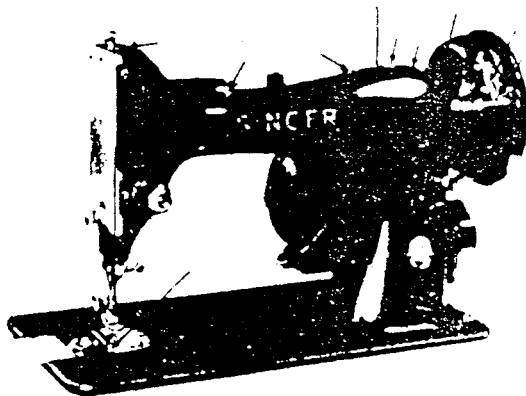

Fig. 19
- Apply a drop of oil to each of the places indicated in Figs. 19, 20 and 21.